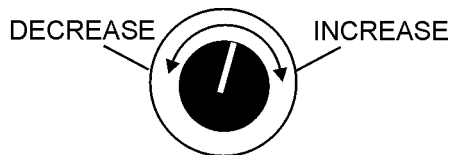

**Figure 42. Frequency Meter**
6. The generator's frequency meter (Figure 42) should be displaying the 60 cycle output frequency in **HERTZ**.